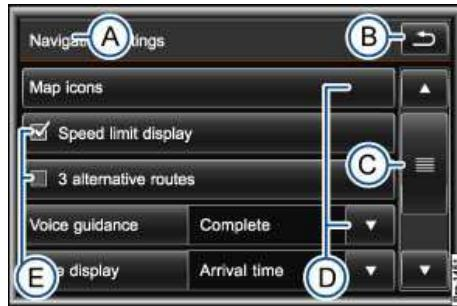

Fig. 133 Navigation settings.
The selected setting is displayed in an "option window" behind some function keys. The option window is indicated by an arrow ▼ ⇒ fig. 133 (D).
If there are more items available in a list view than can be displayed on the screen, a scroll bar is displayed on the right of the screen ⇒ fig. 133.
- *Browsing lists page-by-page:* briefly press the screen above or below the scroll marker ⇒ fig. 133